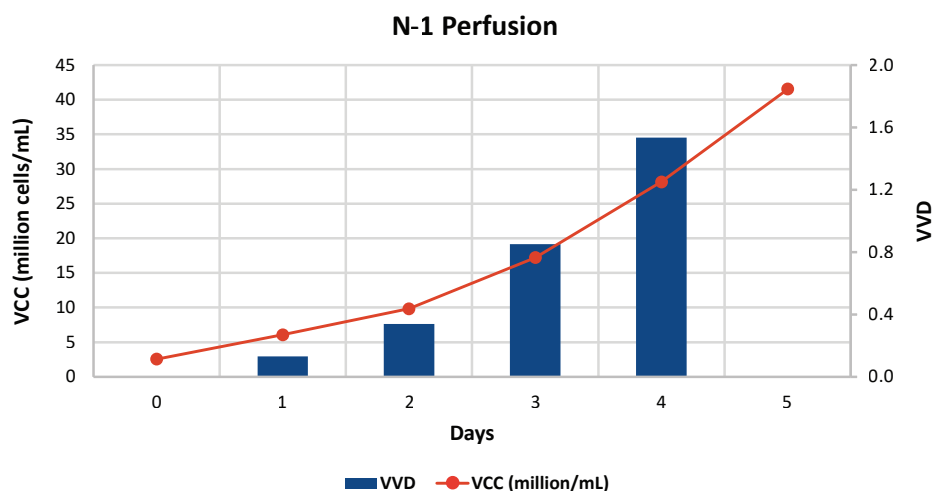

Figure 5: Vessel Volume Per Day (VVD) and Viable Cell Concentration (VCC) for N-1 perfusion process.
- **Seed Train and Perfusion:** HSDCB reduced seed train time by 30–40%. By combining the HSDCB and N-1 perfusion, at N-1 stage reached ~40 million cells/mL by Day 5 (Figure 5).